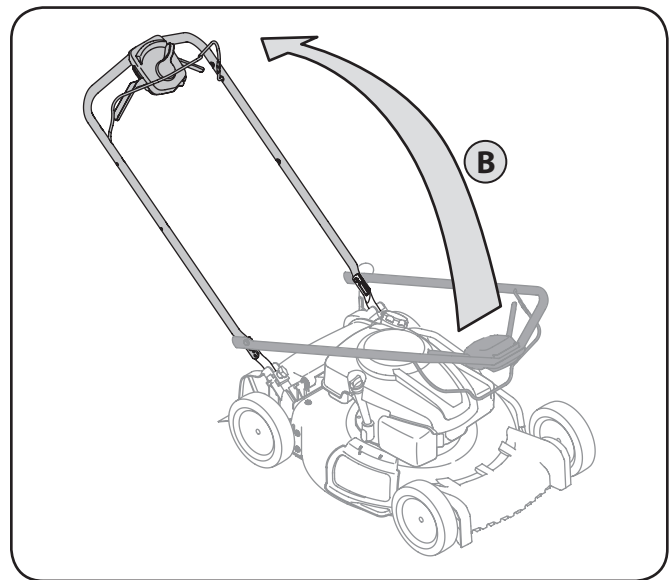

Figure 3-2
- b. While stabilizing mower so it doesn't move, pivot upper handle up as shown in Fig. 3-2. Do not crimp cables while lifting the handle up and make sure they go on the outside of the handle.